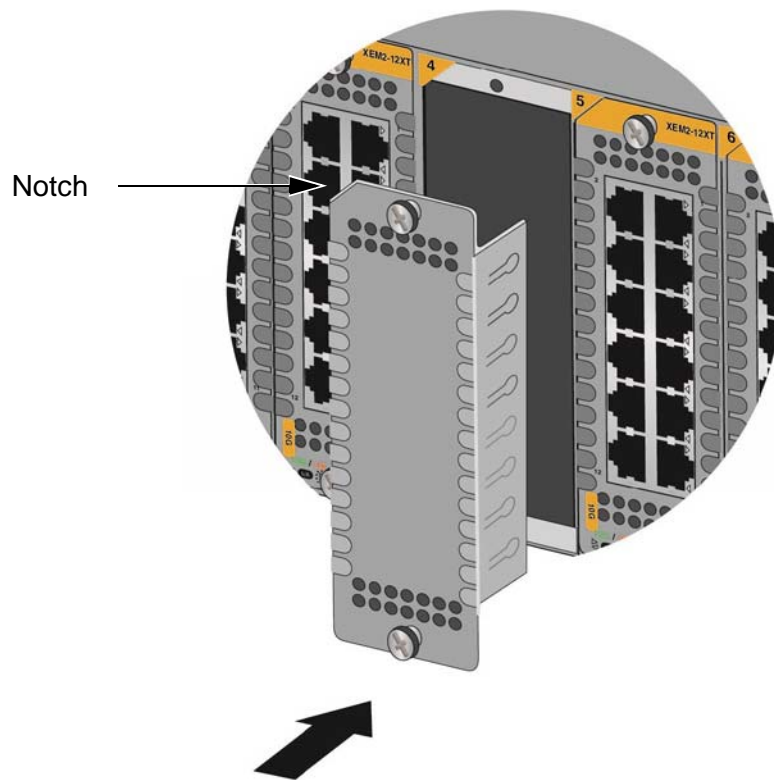

Figure 47. Installing a Blank Slot Cover
1. Position the blank slot cover with the notch in the upper left and slide it into the empty slot. Refer to Figure 47.